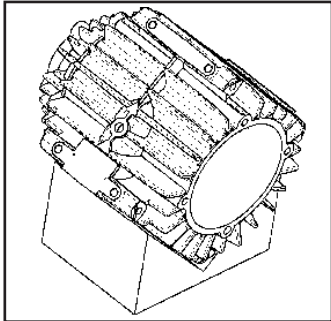

Figure 25
1. Stand the compressor body, ports down, on "V" blocks or packing as shown in Figure 25. Use care during the assembly process to avoid any contamination. All internal surfaces of the body, rotor, blades and sideplates **MUST** be free of all debris or grease.